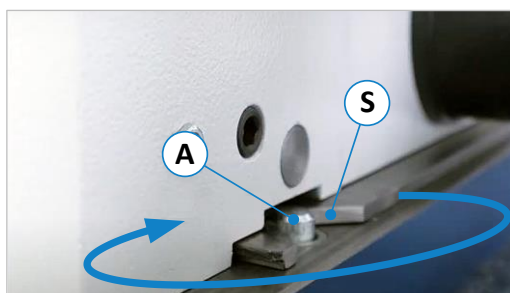

Figure 56: Lock and engage
- To ensure parallelism with the machine table, turn the fence slightly until the centring pins on the underside of the fence (hidden in the view) engage in the holes (B) on the machine table (see ⇒ Figure 56). A slight click can be heard.